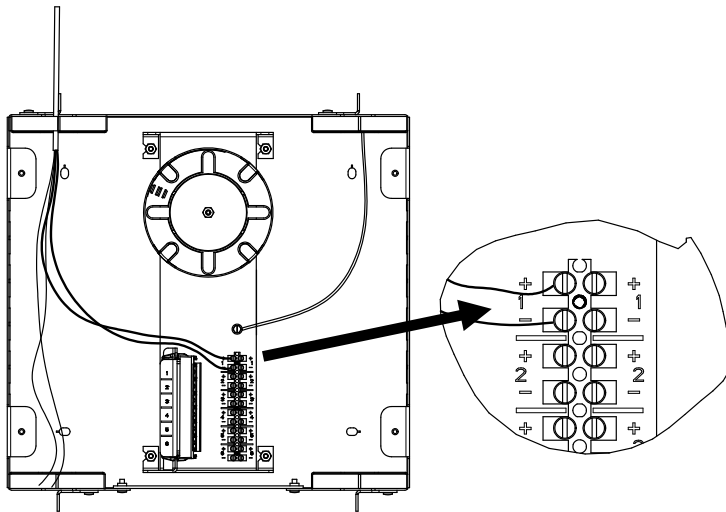

Figure 6
4. Match the wire polarity from the cable plant with the terminal strip polarity, as shown in **Figure 6**.